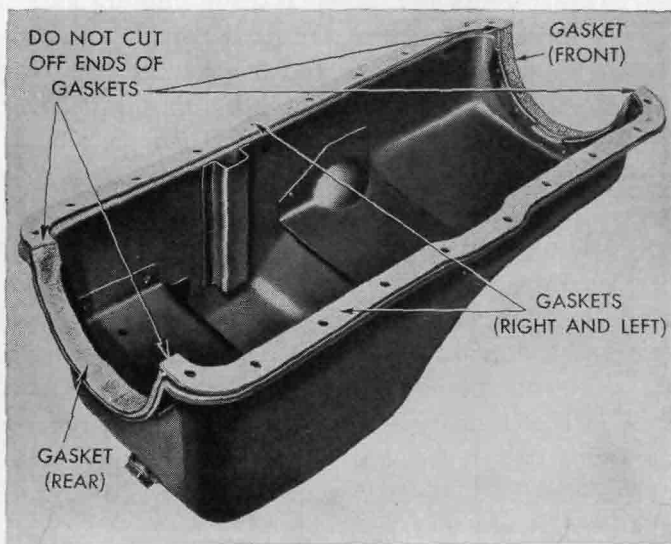

FIG. 12-5. Oil pan with gaskets in place, ready for pan replacement. (*Plymouth Division of Chrysler Corporation*)
3. *Replacing oil pan.* To replace the pan, apply gasket cement to the gasket surfaces of the oil pan. Be sure gasket and pan bolt holes align, and put gasket (or gaskets) into position. Lift oil pan into place and temporarily attach it with two bolts, one on each side. Then examine the gaskets to make sure that they are still in position. Note that on the type of oil pan shown in Fig. 12-5 the end gaskets appear to be somewhat too long so that their ends project slightly beyond the mounting flange of the oil pan. These ends should not be cut off, since they will crush down against the block to provide a better seal. If the gaskets are all still in position,